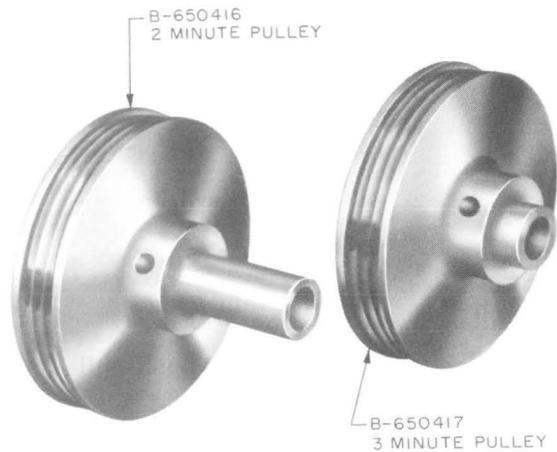

Fig. 11—Drive Pulleys
- (1) Remove the recorder from the announcement set as covered in 3.003(1) through (5).
- (2) Remove the flat drive belt.
- (3) Using the 6-inch B screwdriver, remove the four screws and lockwashers which fasten the motor drive assembly to the recorder base.
- (4) Remove the three round drive belts.
- (5) Using the proper size Allen wrench, remove the setscrew located in the collar of the B-650416 pulley (Fig. 11).
- (6) Remove the pulley.
- (7) Transfer the setscrew to the B-650417 pulley.
- (8) Install the B-650417 pulley, and align the grooves in the pulley with the grooves in the motor shaft. Ensure that the setscrew is against the flat of the drive shaft.
- (9) Remount the round drive belts, and ensure that they are in the proper grooves.
- (10) Remount the flat drive belt.
- (11) Remount the recorder in the announcement set as covered in 3.003.